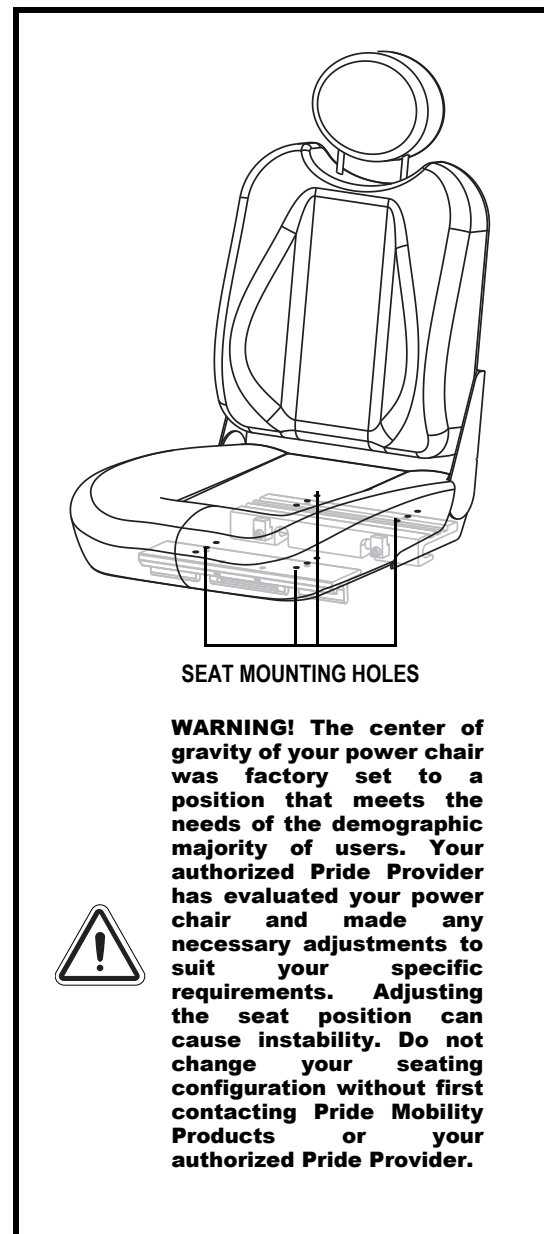

Figure 9. Seat Position Adjustment
6. Reposition the extrusions on a different set of mounting holes. You must move both extrusions the same number of holes either forward or backwards. See figure 9.